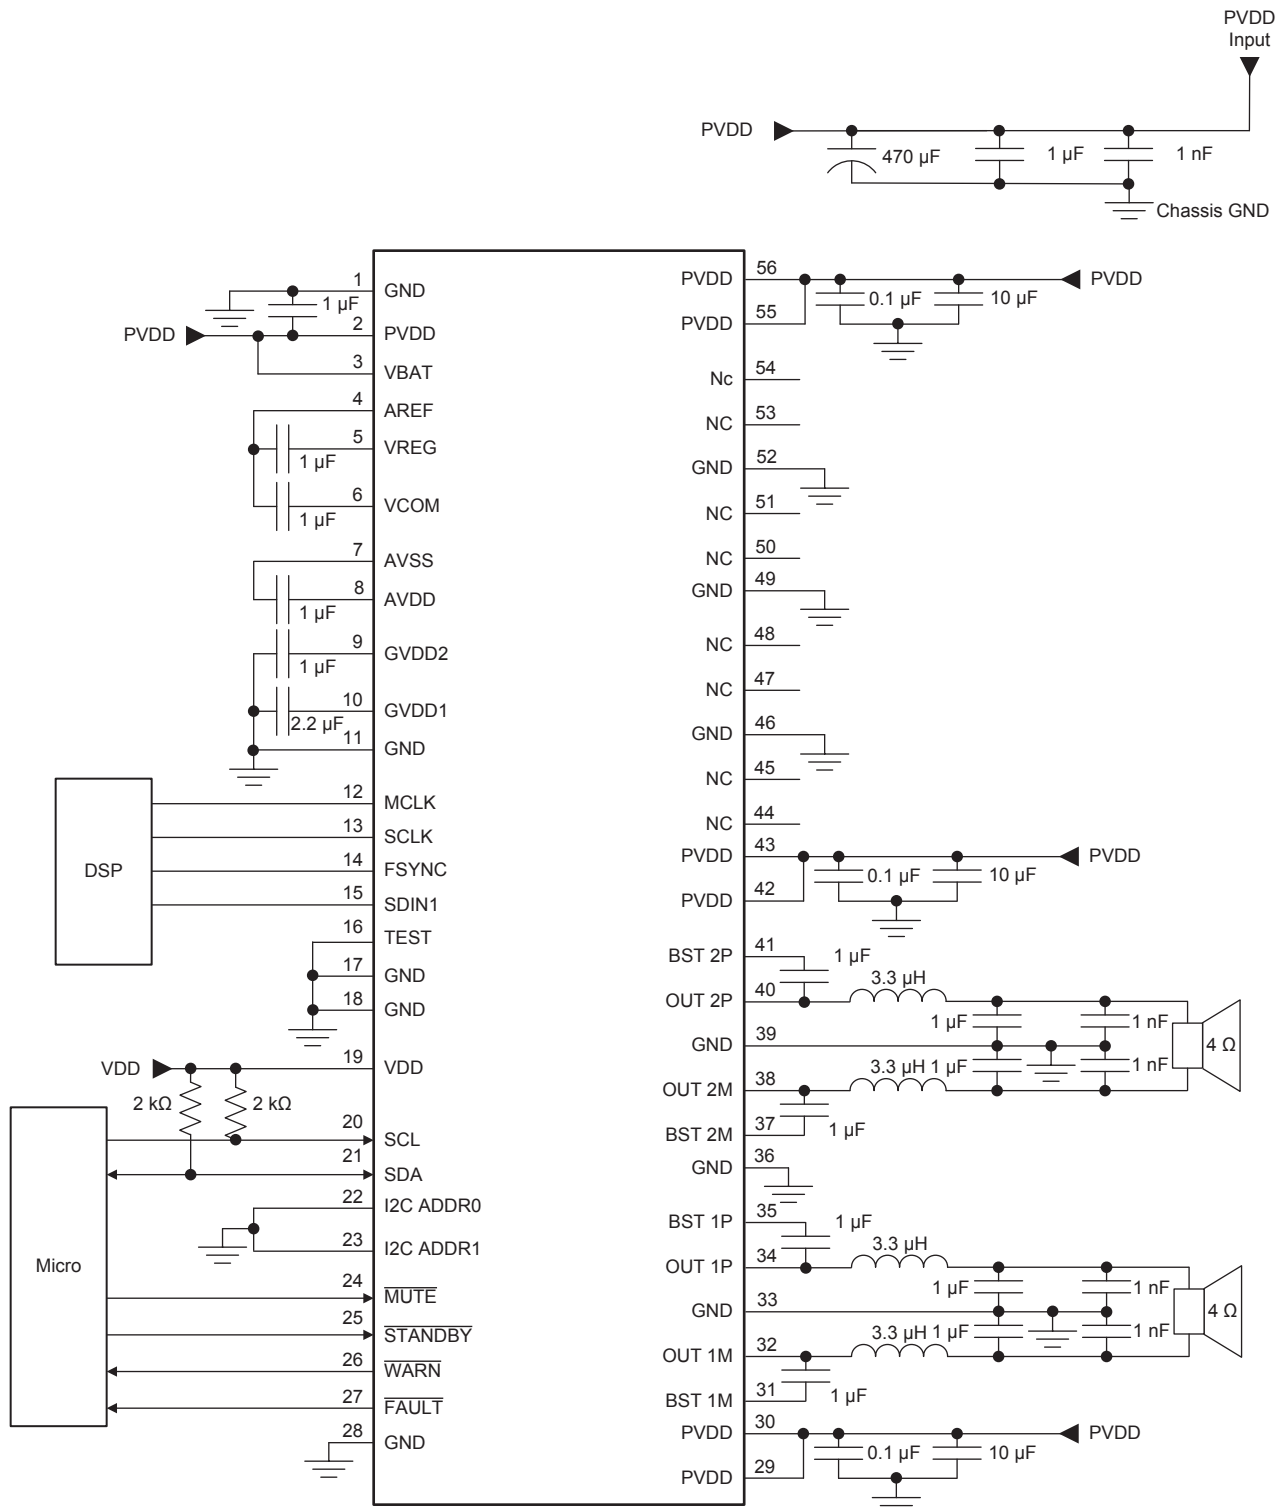

Figure 77. Typical 2-Channel BTL Application Schematic
Figure 77 shows the schematic of a typical 2-channel solution for a head-rest amplifier application.
- With the requirements, adjust the typical application schematic in Figure 77 for the input connections.